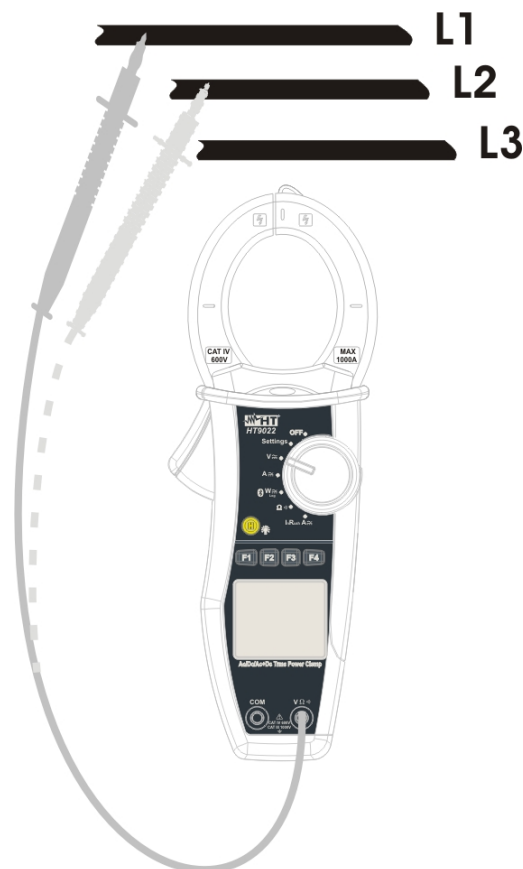

Fig. 7: verification of phase sequence
2. Insert the red cable into input terminal  $V\Omega$  and connect the red lead to phase L1 (Fig. 7).